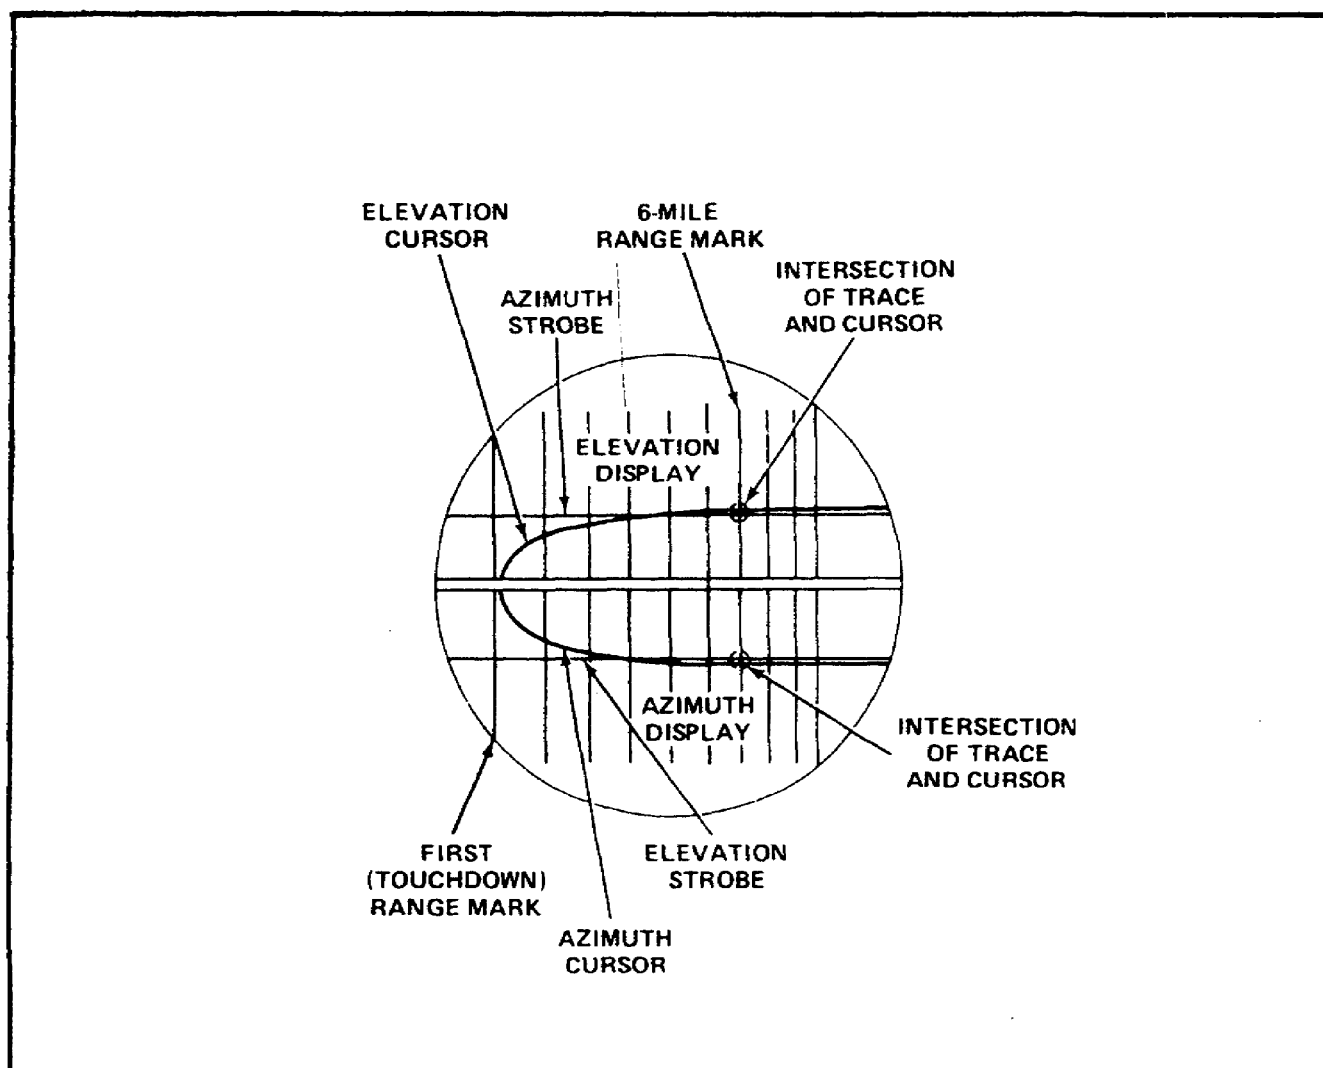
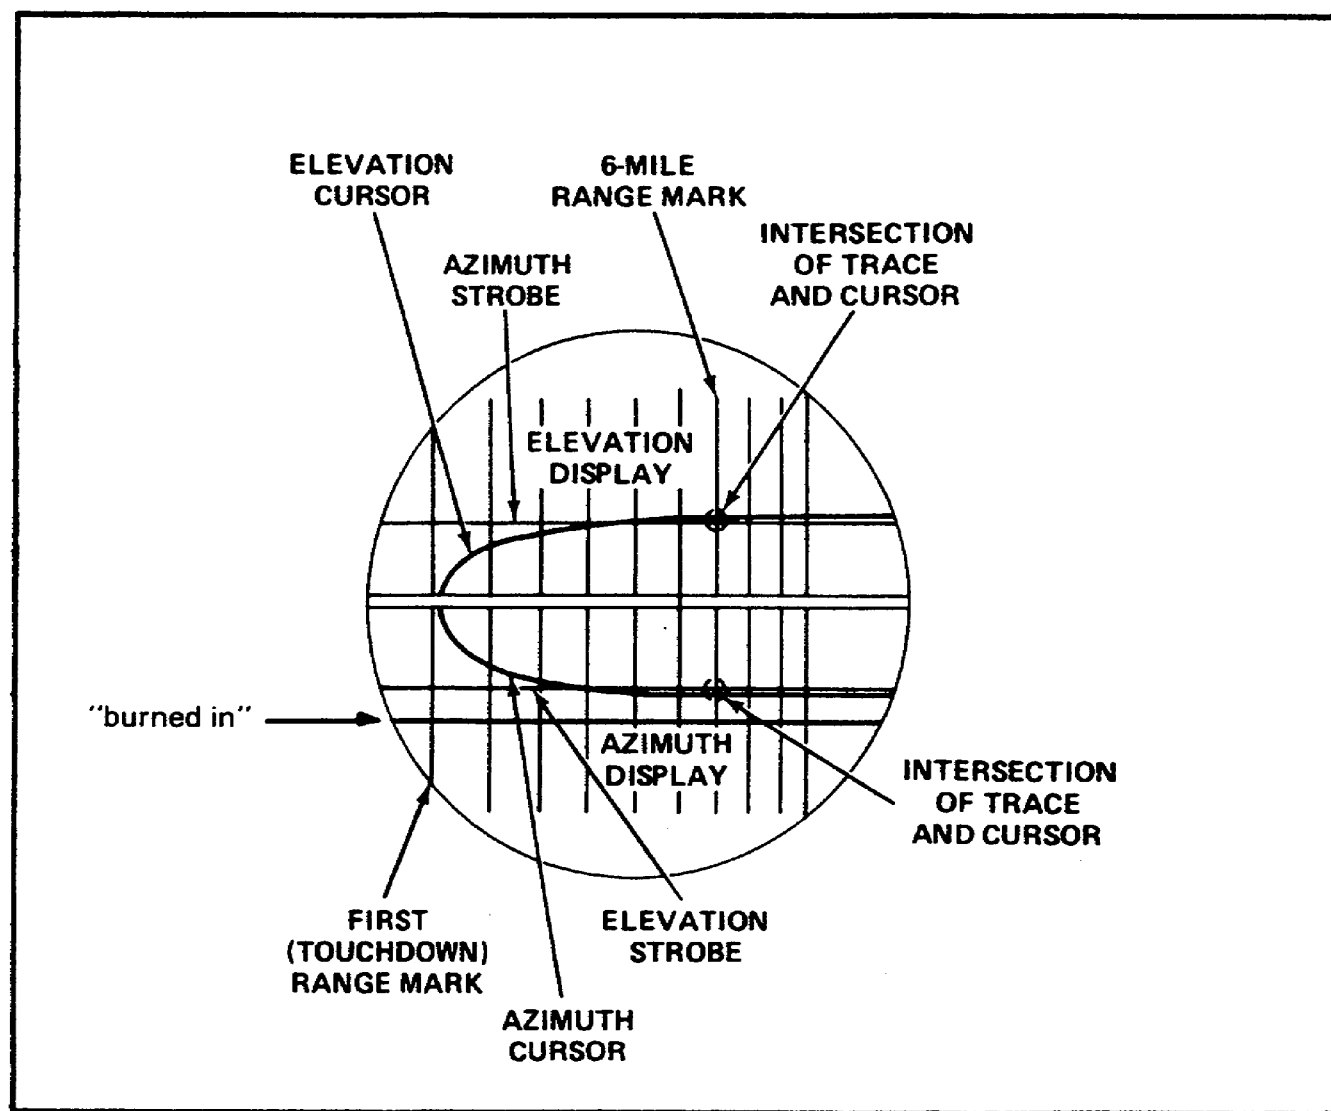

Figure 37. Indicator, azimuth-elevation-range
Figure 40. Indicator, azimuth-elevation-range IP-800/FPN-40.
o. Locate the following on the indicator display of indicator azimuth-elevation-range IP-800/FPN-40. (See Figure 37.)
- (1) Elevation servo strobe.
- (2) Azimuth display.
- (3) Elevation display.
q. Release the CURSOR ALIGN switch S2807 on control, radar set C-2074/FPN-33. Notice that the display on indicator, azimuth-elevation-range IP-800/FPN-40 returns to normal. Notice also that where the reference strobe had appeared, there is a "burned in" trace. (See Figure 40.)
NOTE: The EL STROBE ADJ control R408 located in computer navigational CP-338/FPN-33 is used to align (superimpose) the elevation servo strobe (Figure 37) over the "burned in" reference strobe (Figure 40).
- _____ Elevation servo strobe (Figure 37)
- _____ Azimuth display (Figure 37)
- _____ Elevation display (Figure 37)